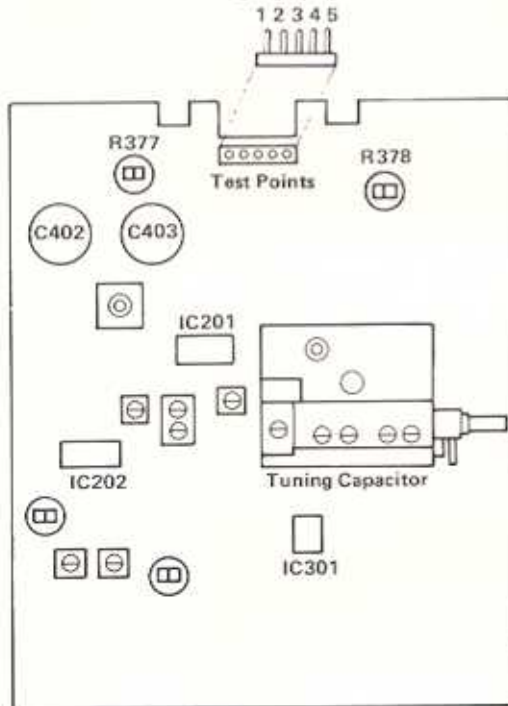

Fig. 19
5. Adjust pot R377 (R378) for DC VTVM reading of 10mV. Refer to Fig. 19.